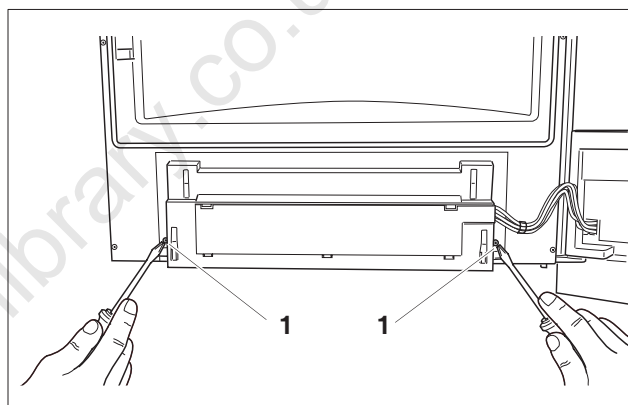

fig. 136 Undoing the screws
- Undo the 2 screws of the control panel at the back of the boiler door (fig. 136, **item 1**).